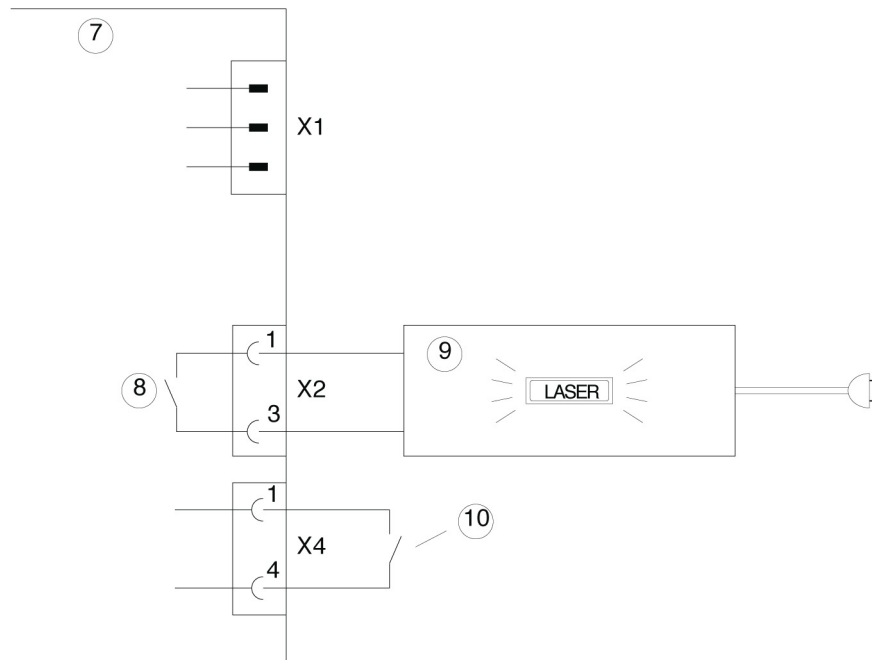

Fig. 5.3: Connections provided on the supply unit
The warning lamps – to be installed clearly visibly over all entryways/doors providing access to the laser area – are automatically switched on and off in accordance with laser operation after they have been duly connected to the three-pole “laser-operation alarm contact” socket located on the rear wall of the supply unit (see Fig. 5.3).
An external door contact – as a normally closed contact – may also be optionally integrated into the safety system. In this case, the laser system lapses into the non-ignition state as soon as this contact is opened. At the same time, the “E03” error message is displayed. The unit can then only be used again after the door has been closed and the system has been restarted with the keylock switch located on the supply unit. The door contact must be connected between the contacts 1 and 4 of the four-pole connector socket provided on the rear wall of the supply unit (see item 9, Figs. 2.9 and 2.10, and item 10, Fig. 5.3). The connectable load is 24 V / 0.1 A.